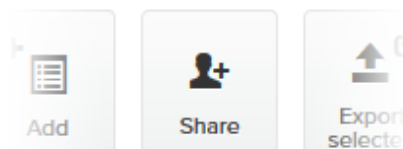

Figure 76. Plug-ins web page (Share button)
4. Click the **Share** button in the upper left-hand corner of the **Plug-ins** web page (Figure 76 (page 171)).